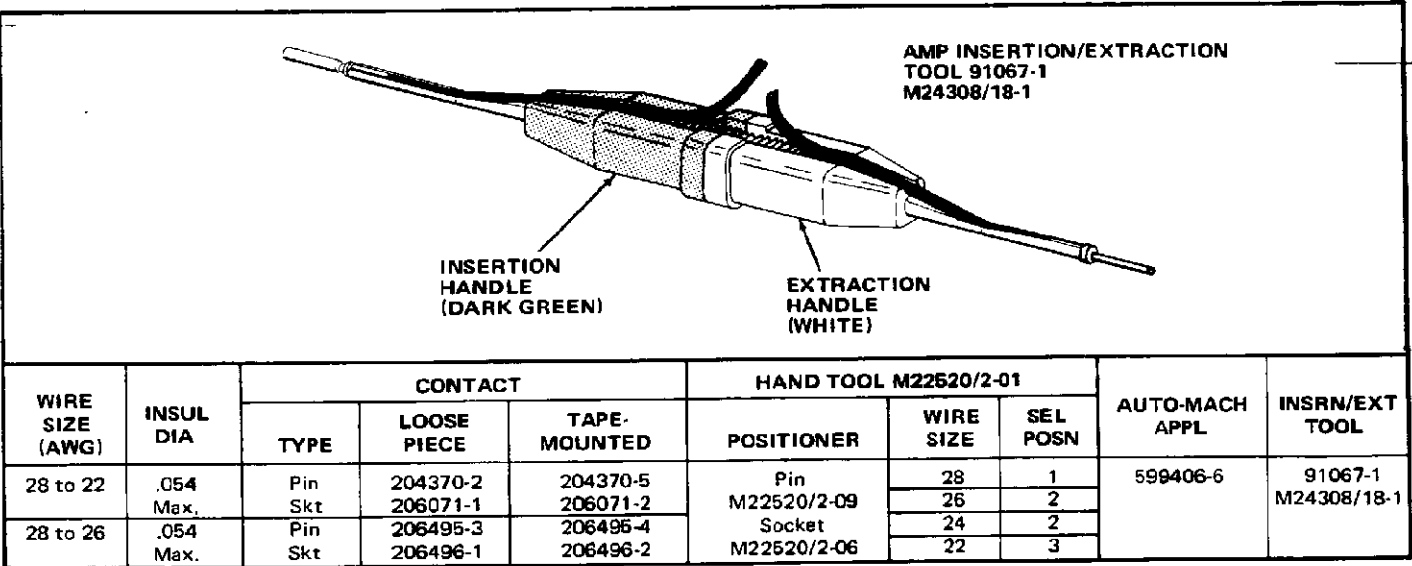

FIGURE 2
**Selection** — refer to the chart in Figure 2, and then select: (1) wire (stranded only) within the specified